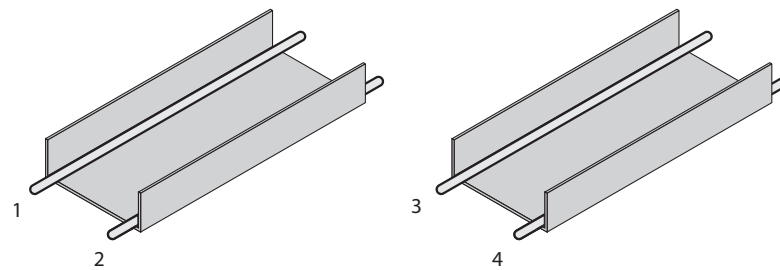
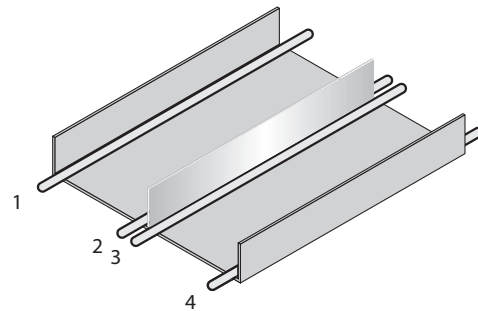

Figure 4: Ideal laying – Place cables in different cable channels
Figure 5: Alternative laying – Separate cables with metallic separators
- ▷ Cables in groups 1, 2 and 3, 4 must be routed in different cable channels or metallic separators must be used see figure 4 and see figure 5. This applies particularly where cables of devices with a high level of radiated emission, such as frequency converters, are laid parallel to sensor cables.